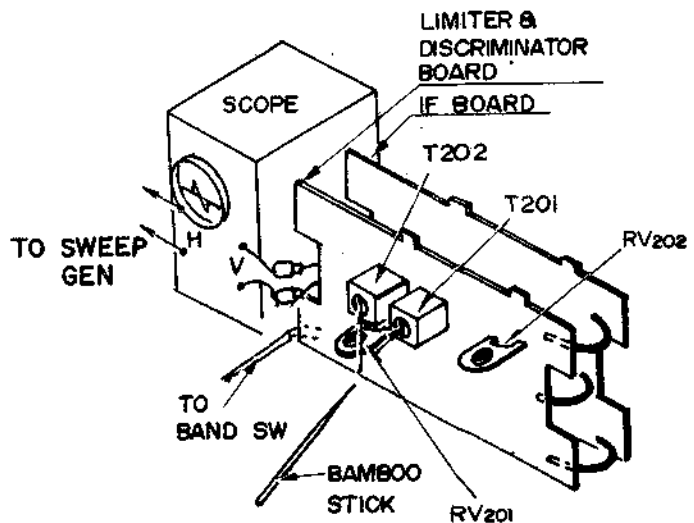

Fig. 3-5
- (2) Turn discriminator transformer T202 core (blue) by bamboo stick to obtain "S" curve response shown at Fig. 3-5, 3-6.
- (3) Turn T201 core (pink) by bamboo stick to obtain maximum response.